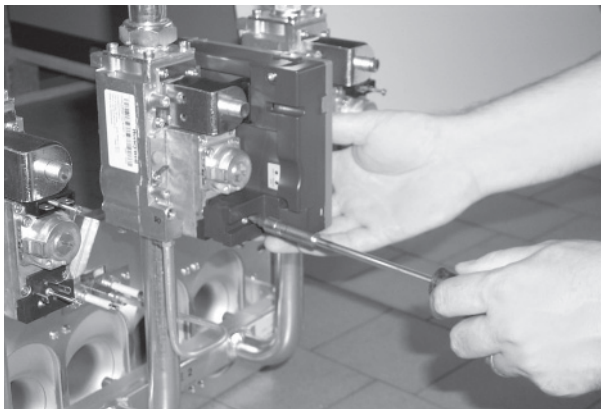

fig. 12
- Unscrew the two screws securing the electronic flame controllers to the gas valve (fig. 12) and remove them from the gas valves (fig. 13).